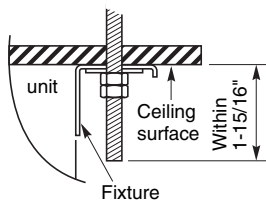
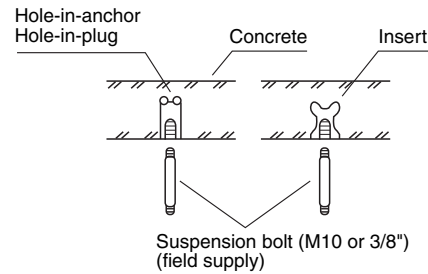

Fig. 3-134
Fig. 3-132
- (2) Drill holes at the 4 points indicated on the full-scale diagram.
- (3) Depending on the ceiling type:
- a) Insert suspension bolts as shown in Fig. 3-132.
- (4) Screw in the suspension bolts, allowing them to protrude from the ceiling as shown in Figs. 3-132 and 3-133. The distance of each exposed bolt must be of equal length within 1-15/16". (Fig. 3-134)